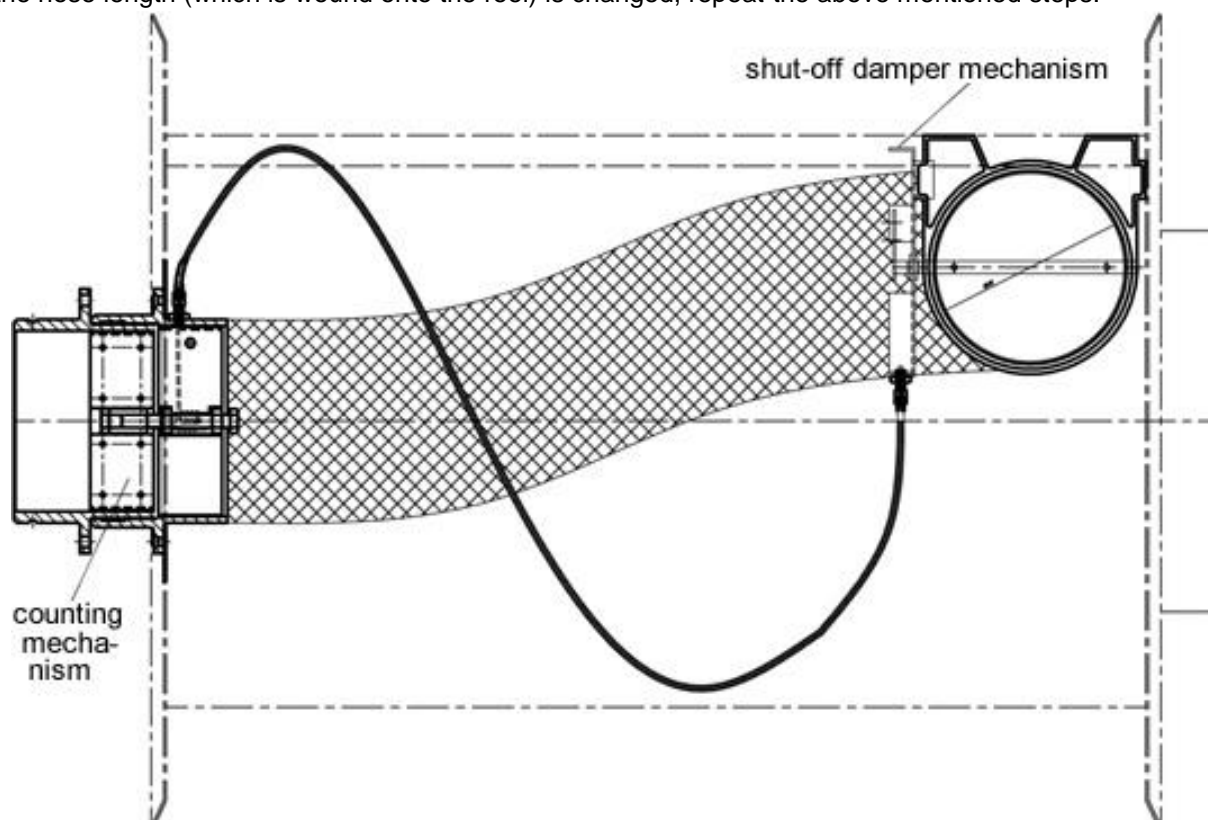
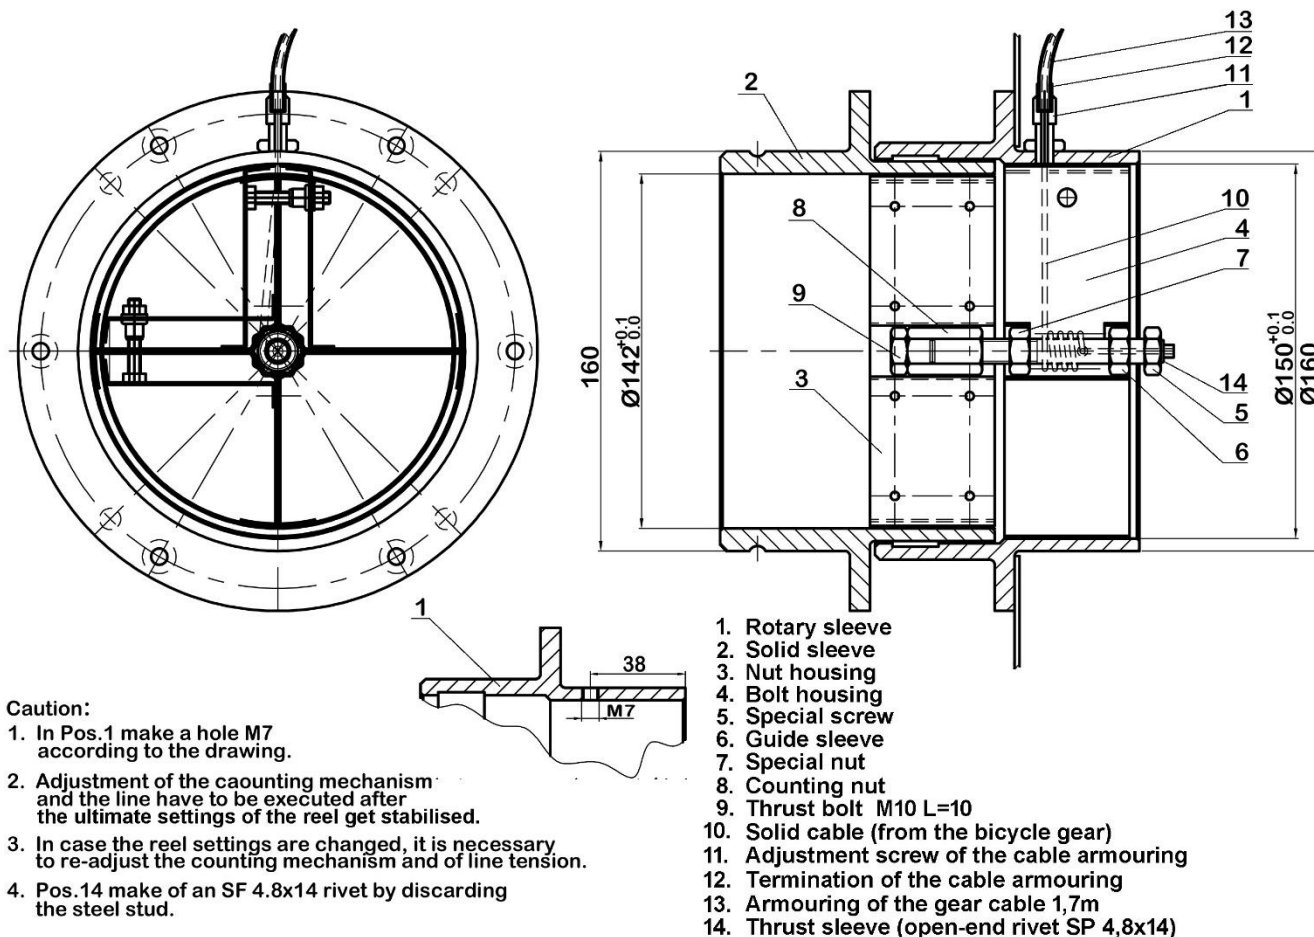

Fig. No.4 – Shut-off damper with the tensioning line
Fig. No.5 – Counting mechanism
Once the reel is blocked from rotation, from the side of the counting mechanism (pos.1 Fig.No.4) pull out the nut housing (pos.3 Fig.No.5) after releasing the nut (pos.7) and screwing in the bolt (pos.6 Fig.6).
Having pulled out the nut housing (pos.3 Fig.No.5); you can change the tension of the winding spring by turning the reel in direction of “hose wind down”.
2. screw on the nut Pos.8 along with the bolt Pos.9 until resistance – onto the bolt Pos.5 Fig. No.5
3. Fasten the housing of the counting nut Pos.3 – so that it sleeves onto the counting nut Pos.8 Fig.No.5 – until the position as in the drawing